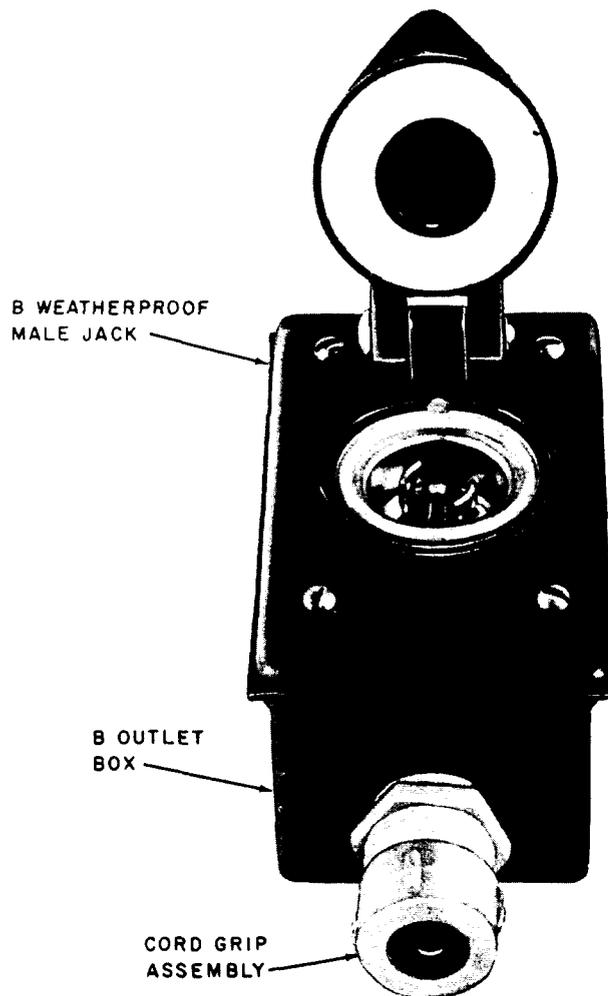

Fig. 8—B Weatherproof Male Jack on B Outlet Box (Cover Open)
- Two B outlet boxes used to mount male and female jacks (Fig. 8 and 13)